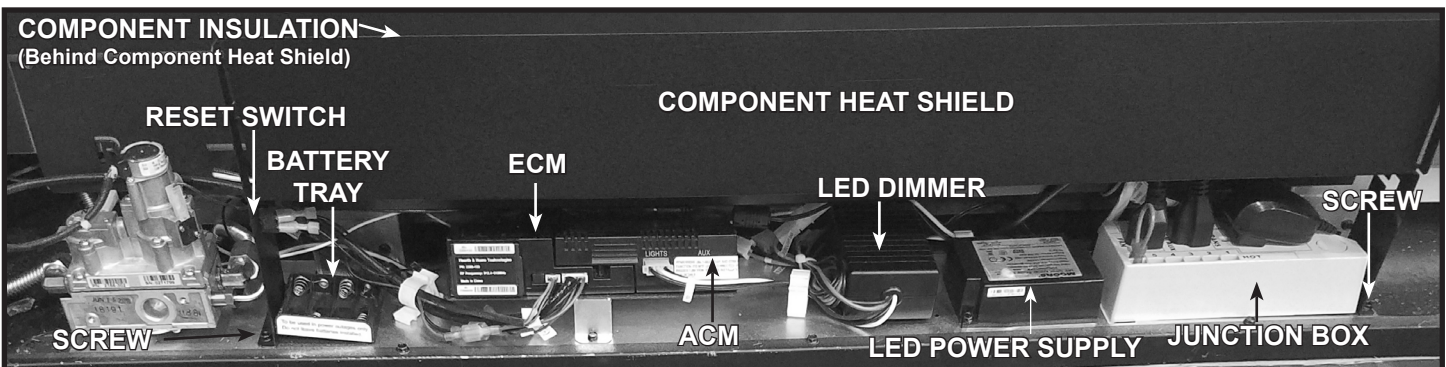

Figure 8.3 Valve Cavity (Lower Access Panel Removed)
3. Remove screws on left and right sides of component heat shield and lift it out of the control cavity. See Figure 8.3 for location of component heat shield screws.